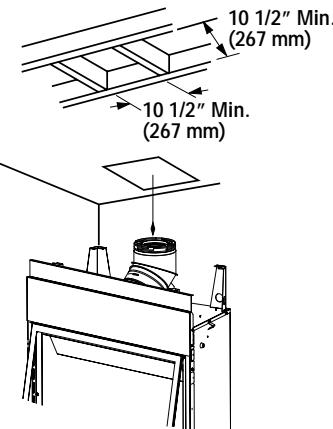

Figure 14
C. Frame ceiling opening - Use a plumb line from the ceiling above the appliance to locate center of the vertical run. Cut and/or frame an opening, 10-1/2" x 10-1/2" (267mm x 267mm) inside dimensions, about this center mark (**Figure 14**).
E. Frame ceiling opening - If the vertical route is to penetrate a ceiling, use plumb line to locate the center above the appliance. Cut and/or frame an opening, 10-1/2" x 10-1/2" (267 mm x 267 mm) inside dimensions, about this center (refer to *Figure 14* on page 11).